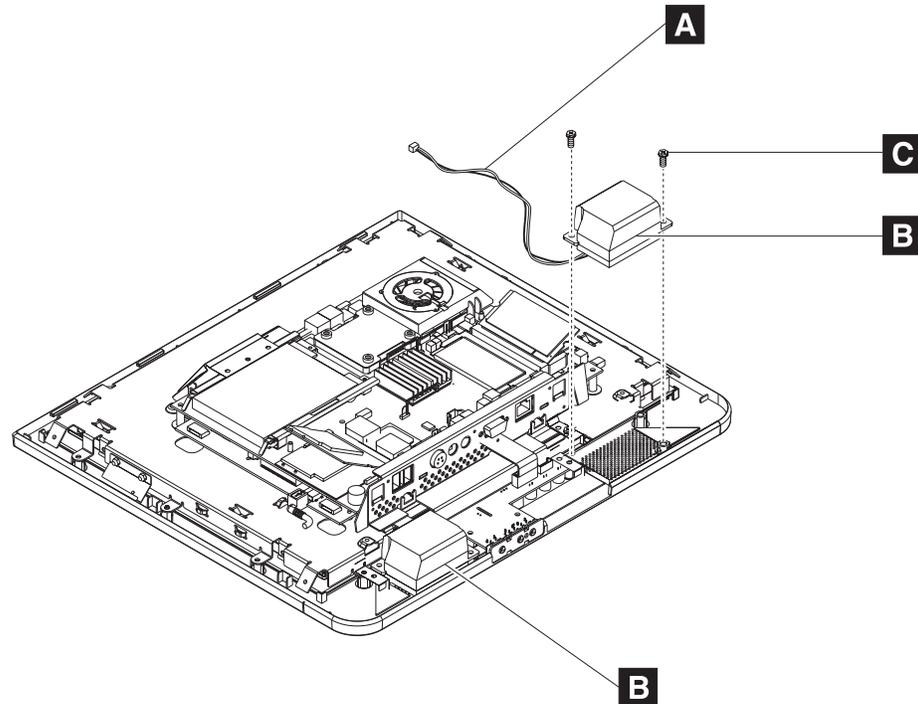

Figure 24. Removing the speakers
2. Detach each speaker cable (**A** in Figure 24) from the adjacent circuit board.
3. See Figure 24. Remove the two screws (**C**) holding each speaker (**B**) and lift to remove.
- Speakers (see **B** in Figure 24 on page 37)